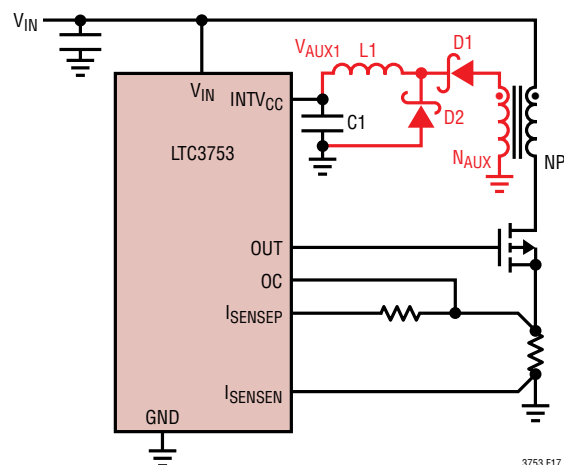

Figure 17. Primary-Side Bias V_{AUX1} (N_{AUX} , $L1$, $D1$, $D2$)
of that internal linear regulator is a limiting factor in the forward converter design, then a primary-side bias (V_{AUX1}) can be generated to overdrive the $INTV_{CC}$ pin (Figure 17). V_{AUX1} is generated using an extra winding (N_{AUX}) from the main power transformer in combination with an inductor ($L1$) and two Schottky diodes ($D1$, $D2$) to generate a buck-derived supply. A 1mH inductor will usually suffice and should be chosen to handle the maximum supply current required by $INTV_{CC}$. See also the section $INTV_{CC}$ Regulator Bypassing and Operation in the Applications Information Section.
- (2) Use a buck-derived bias using an extra winding from the main power transformer (similar method as Figure 17, applied to secondary-side circuitry)